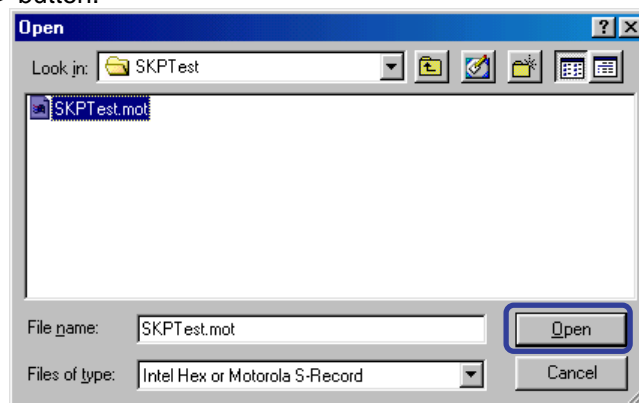

Figure 4-5 Open screen
- (1) Click the "OPEN" button, and the screen shown in Figure 4-5 will appear, allowing you to choose the file to download into the Target MCU. The type of file that can be downloaded is HEX or Motorola. After selecting the file to download, click the <Open> button.